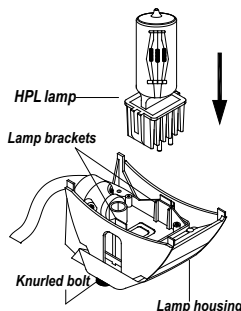

Figure 2
4. Line up the flat sides of the lamp base with the brackets on either side of the socket (Figure 2).